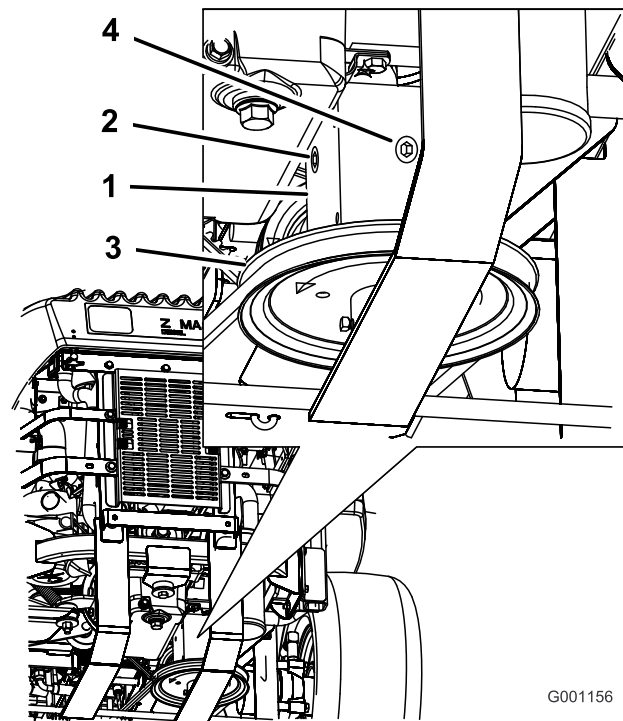

Figure 58
4. Remove the side or rear plug on the gear box. (Figure 58).